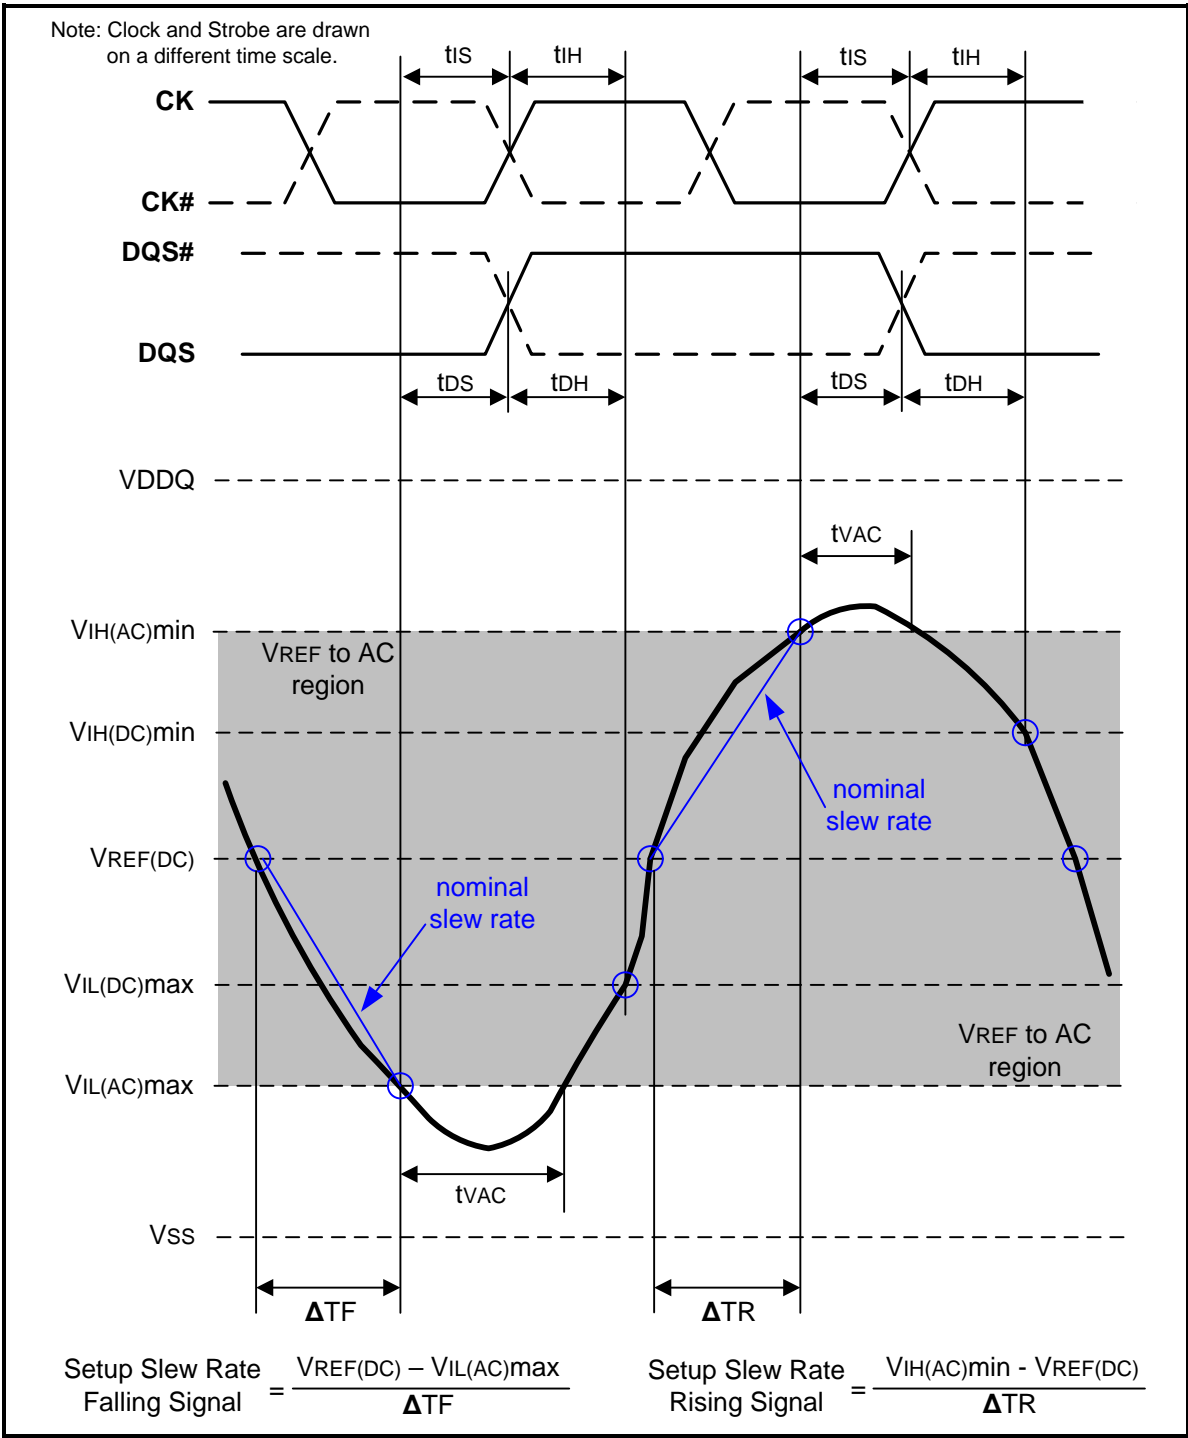
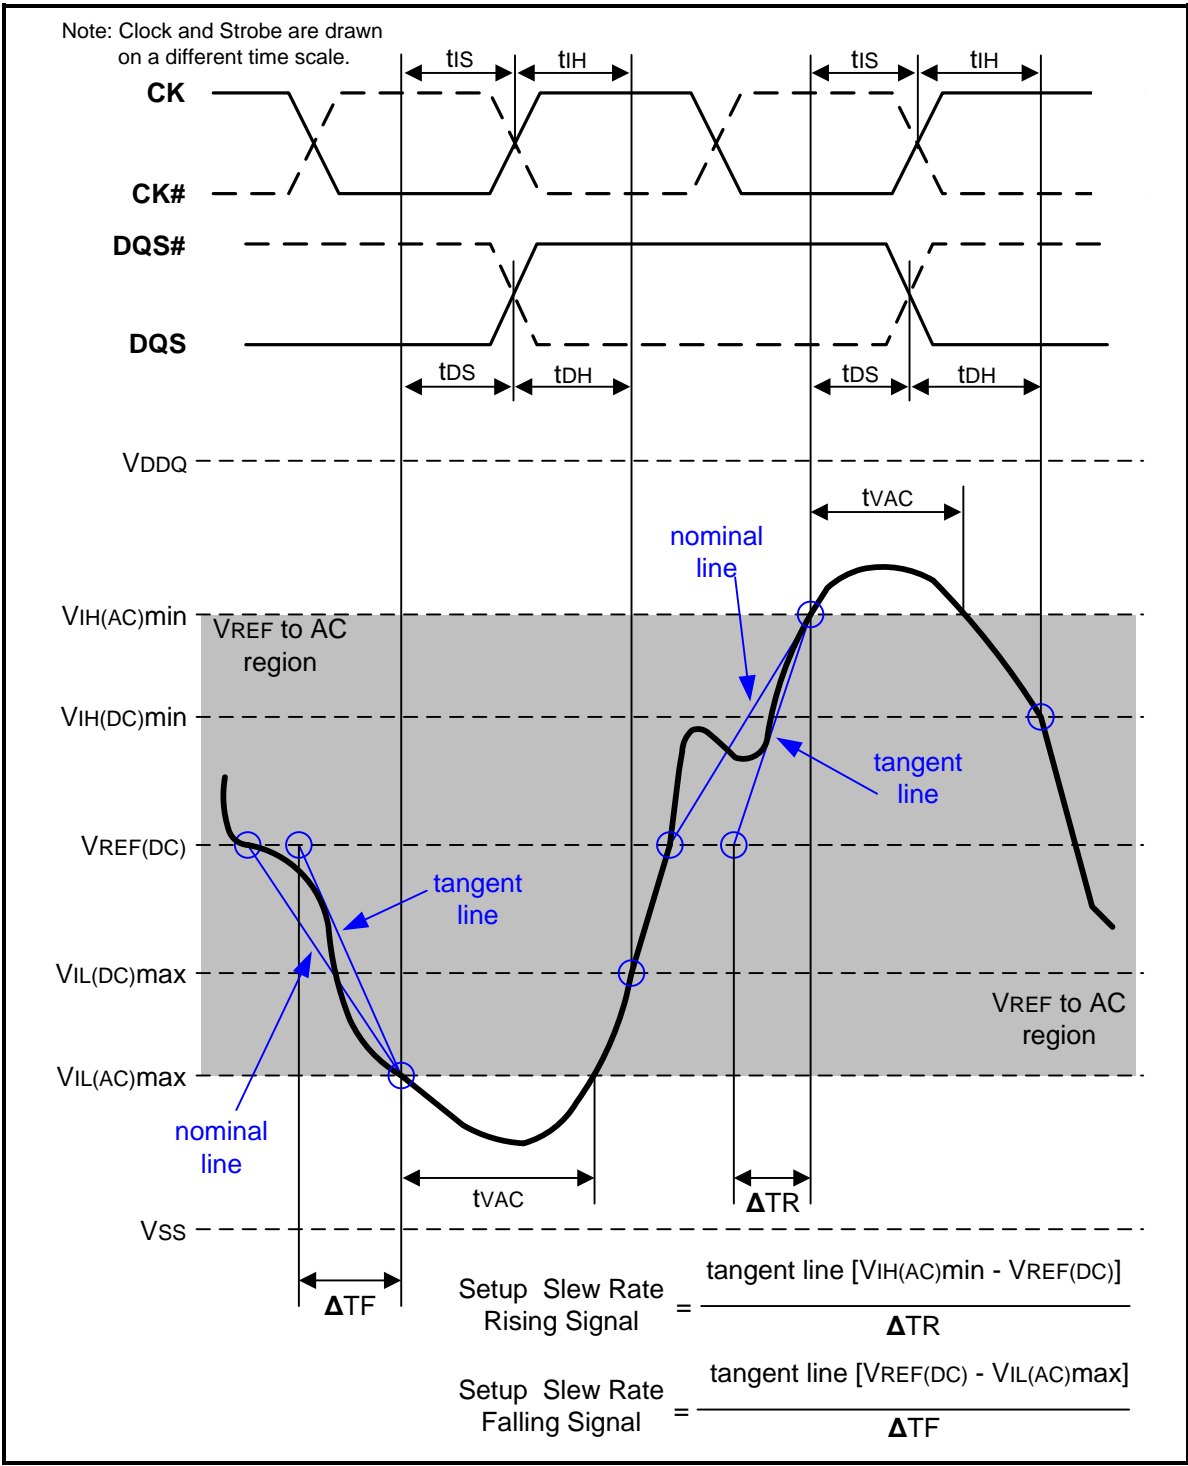

Figure 107 – Illustration of nominal slew rate and tvac for setup time tds (for DQ with respect to strobe) and tis (for ADD/CMD with respect to clock)
Figure 109 – Illustration of tangent line for setup time tds (for DQ with respect to strobe) and tis (for ADD/CMD with respect to clock)
Setup (t_{IS}) nominal slew rate for a rising signal is defined as the slew rate between the last crossing of $V_{REF(DC)}$ and the first crossing of $V_{IH(AC)min}$. Setup (t_{IS}) nominal slew rate for a falling signal is defined as the slew rate between the last crossing of $V_{REF(DC)}$ and the first crossing of $V_{IL(AC)max}$. If the actual signal is always earlier than the nominal slew rate line between shaded 'VREF(DC) to AC region', use nominal slew rate for derating value (see Figure 107). If the actual signal is later than the nominal slew rate line anywhere between shaded 'VREF(DC) to AC region', the slew rate of a tangent line to the actual signal from the AC level to $V_{REF(DC)}$ level is used for derating value (see Figure 109).
Setup (tDS) nominal slew rate for a rising signal is defined as the slew rate between the last crossing of VREF(DC) and the first crossing of VIH(AC)min. Setup (tDS) nominal slew rate for a falling signal is defined as the slew rate between the last crossing of VREF(DC) and the first crossing of VIL(AC)max (see Figure 107). If the actual signal is always earlier than the nominal slew rate line between shaded 'VREF(DC) to AC region', use nominal slew rate for derating value. If the actual signal is later than the nominal slew rate line anywhere between shaded 'VREF(DC) to AC region', the slew rate of a tangent line to the actual signal from the AC level to VREF(DC) level is used for derating value (see Figure 109).